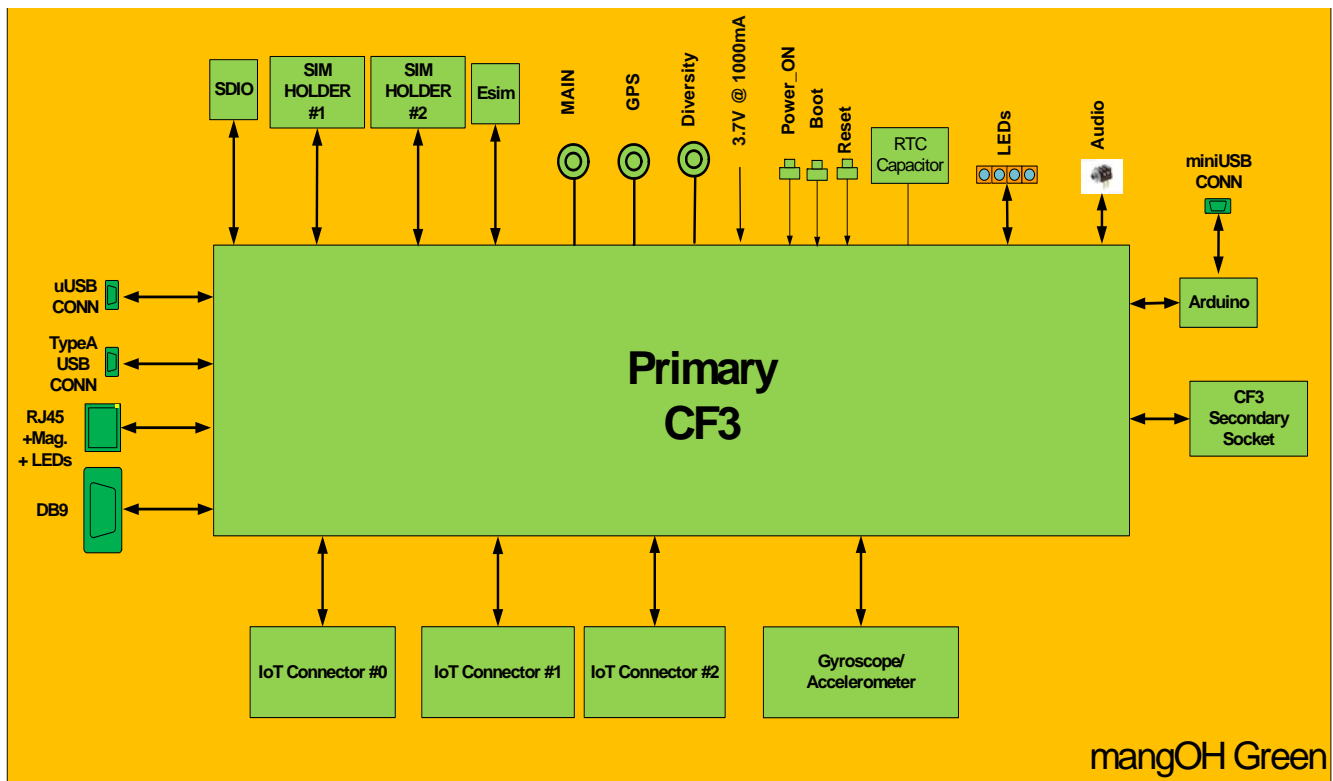
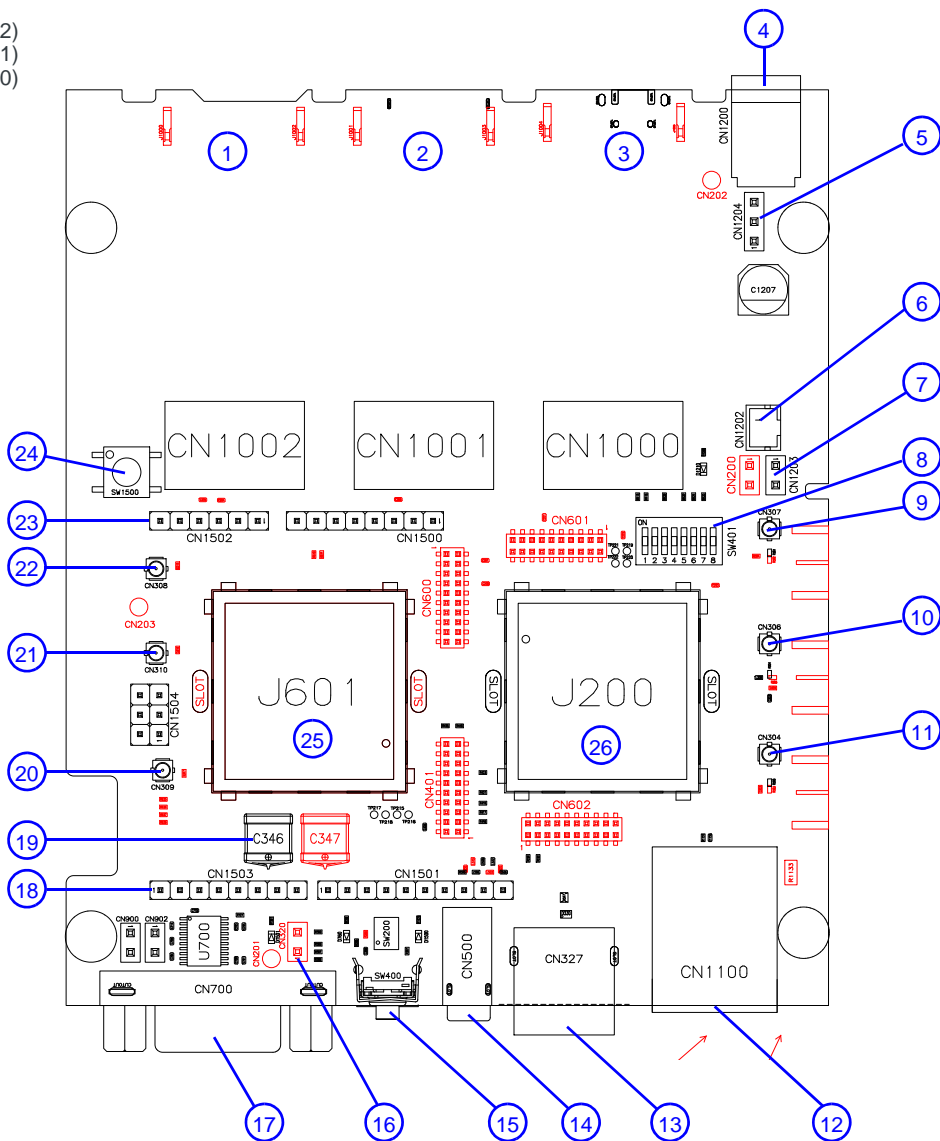

Figure 2-1: mangOH Green Hardware Components Overview
Figure 2-2: mangOH Green—Top Side Switches/Connectors
Figure 2-1 provides an overview of the mangOH Green's hardware components relative to the primary CF3 module, and Figure 2-2 on page 7 and Figure 2-3 on page 8 show their locations.
- a. Board designators (e.g. CN311, SW401, etc.) are for reference against the published mangOH Green schematic. For component locations on the board, see Figure 2-2 on page 7 and Figure 2-3 on page 8.